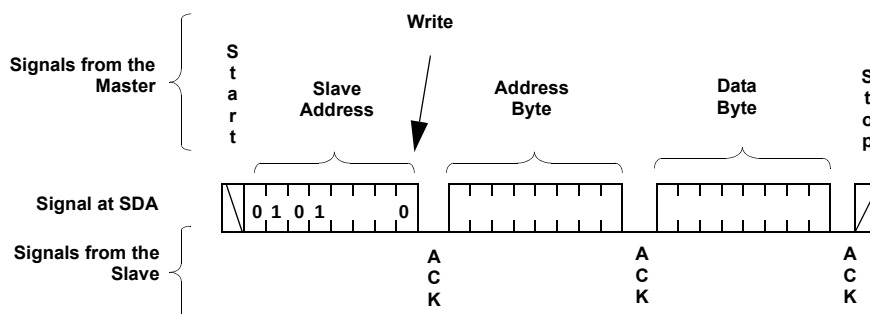

FIGURE 7. BYTE WRITE SEQUENCE
2. Access the desired DR or WCR using a new write or read command (see Figure 7 for write and Figure 9 for read.)
For any Byte Write operation, the X9252 requires the Slave Address byte, an Address Byte, and a Data Byte (See Figure 7). After each of them, the X9252 responds with an ACK. The master then terminates the transfer by generating a STOP condition. At this time, if the write operation is to a volatile register (WCR, or SR), the X9252 is ready for the next read or write operation. If the write operation is to a nonvolatile register (DR), and the $\overline{WP}$ pin is high, the X9252 begins the internal write cycle to the nonvolatile memory. During the internal nonvolatile write cycle, the X9252 does